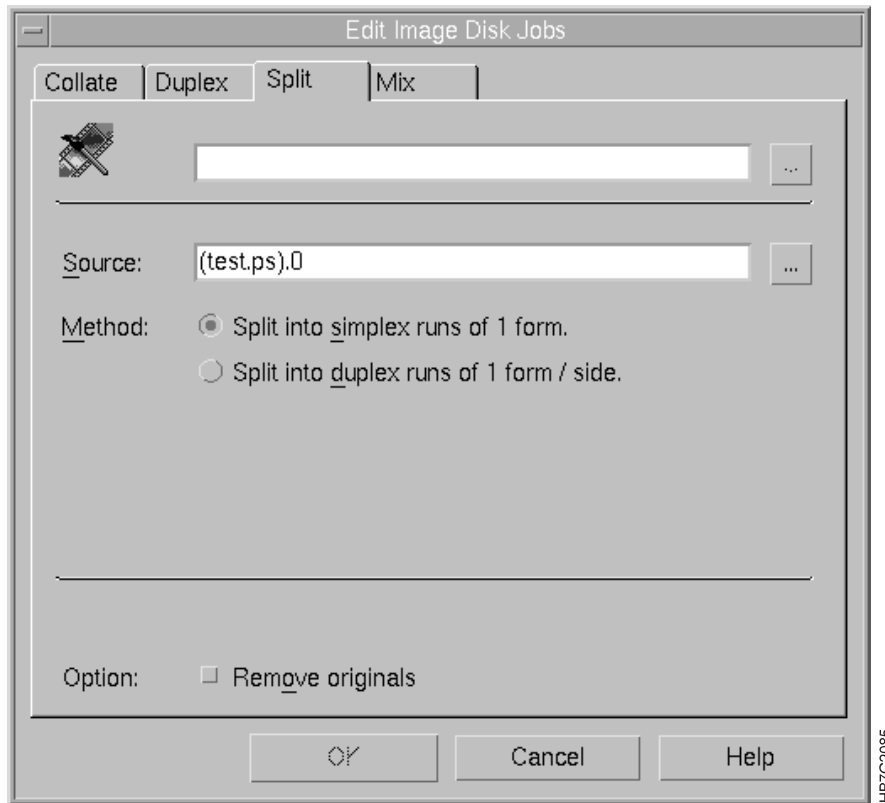

Figure 127. Split Tab in Edit Image Disk Jobs Window
**1** Click the **Split** tab in the **Edit Image Disk Jobs** window, as shown in Figure 127 on page 196.